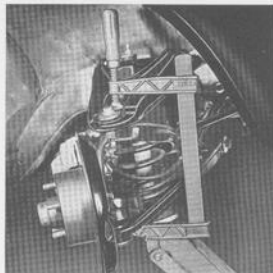

Fig. 6-26. Upper ball joint securely held by vice
3. Turn down the control arm and tighten the nuts for the control arm shaft. Tighten the ball joint against the steering knuckle. If the pin rotates, hold it firmly with a screw vice, see Fig. 6-26.
4. Fit the steering knuckle and tighten the nuts of the upper and lower ball joints. If the pins rotate, fix them securely with a screw vice, see Fig. 6-26. Fit the steering rod and lower the jack in order to take the load off the control arms. Point the wheels straight forwards and fasten the brake hoses to the stabilizer screw.